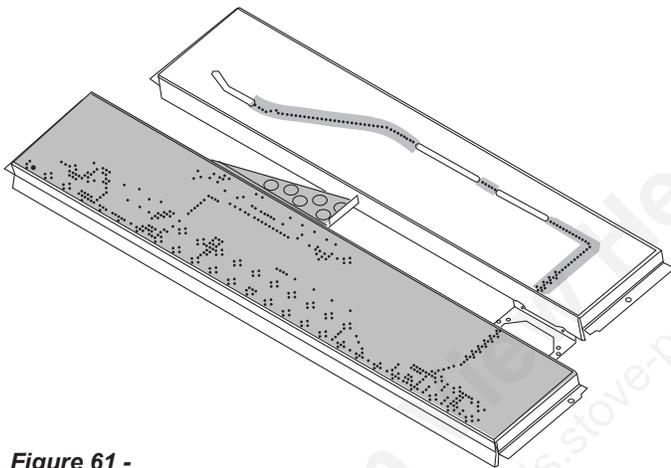

Figure 61 - Rockwool placement - 400/500 Series
2. Distribute one layer of rock wool to cover the burner. *Figure 61*
The flames from the pilot should be visually checked as soon as the heater is installed and periodically during normal operation. **The pilot flame must always be present when the fireplace is in operation.** Figure 61. The pilot flame has four distinct flames, one engulfing the thermopile, one engulfing the thermocouple or sensor, and the remaining reaching to the main burners.